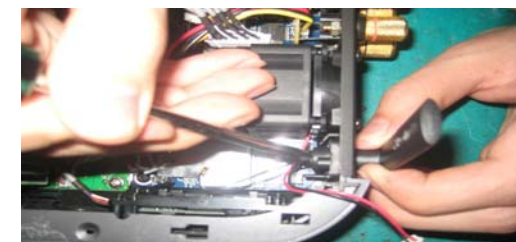

Figure 7
- 1) Get the RF antenna out as shown in figure 7.